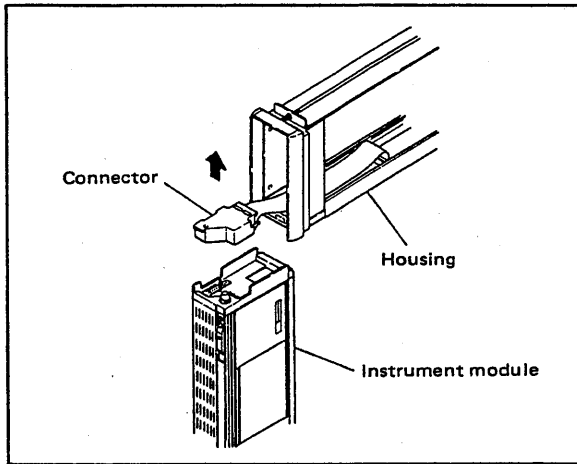

Figure 5-2-3. Removing the Connector.
- (3) Facing downward the instrument front panel as shown in Figure 5-2-3, detach the connector from the instrument module by pulling it in the direction shown. Separate the module from the housing.